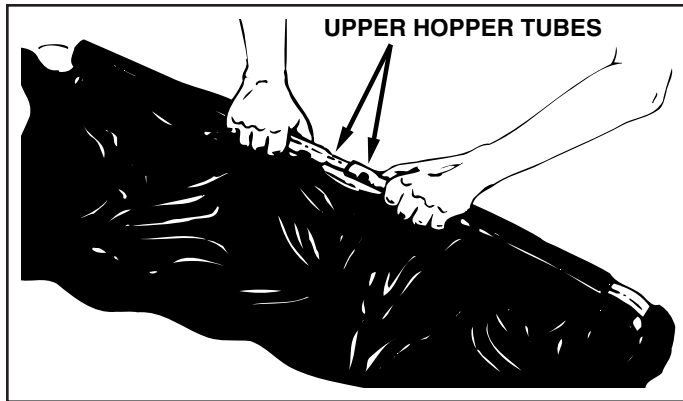

FIGURE 8
2. Slide the two upper hopper tubes together and line up the center holes as shown in figure 8.